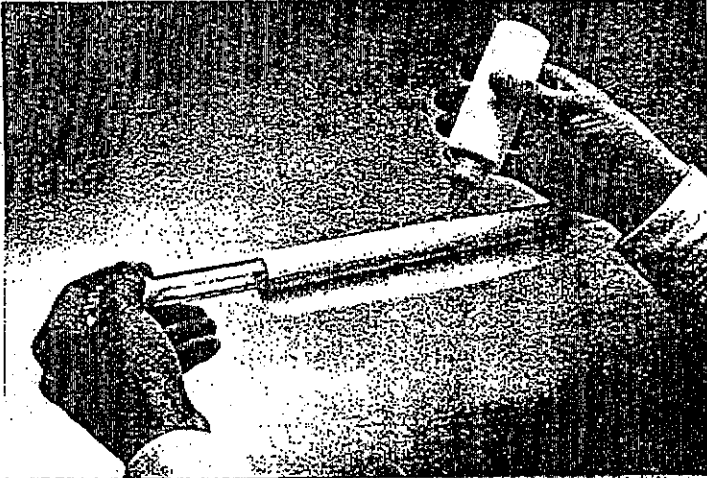

Figure 4: Application of Cleaner with Cloth.
Step 2: Clean the Lamp/Sleeve with a commercial product "scale remover" (such as Lime-Away or CLR). Figures 4 and 5 illustrate how the Lamp/Sleeve should be cleaned. When using acidic solution (scale remover) for cleaning follow the manufacturer direction. After the Lamp/Sleeve is cleaned handle it by the ends only. Avoid touching the Lamp/Sleeve glass with fingers as skin oils will impair proper ultraviolet radiation.